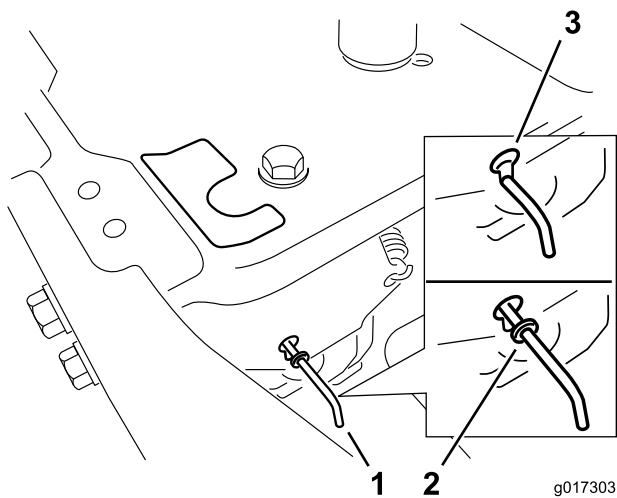

Figure 19
4. Move the bypass levers forward through the key hole and down to lock them in place (Figure 19).
Move the bypass levers rearward through the key hole and down to lock them in place as shown in Figure 19.